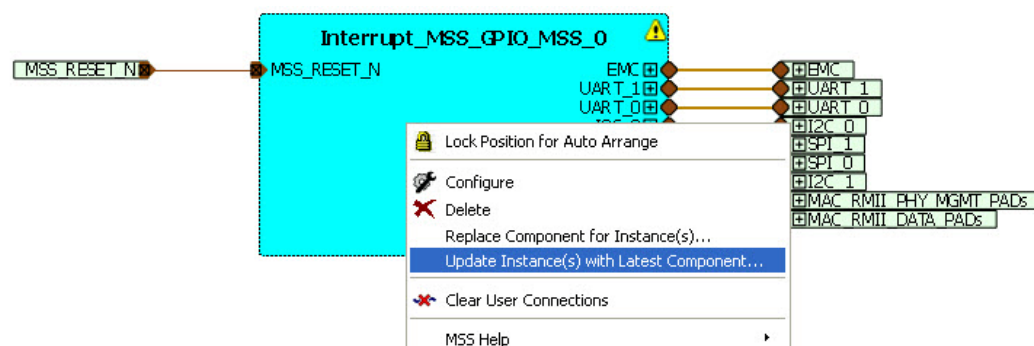

Figure 2-12 • Update the MSS Component
16. Right-click and choose Update Instance(s) with Latest Component (Figure 2-12).